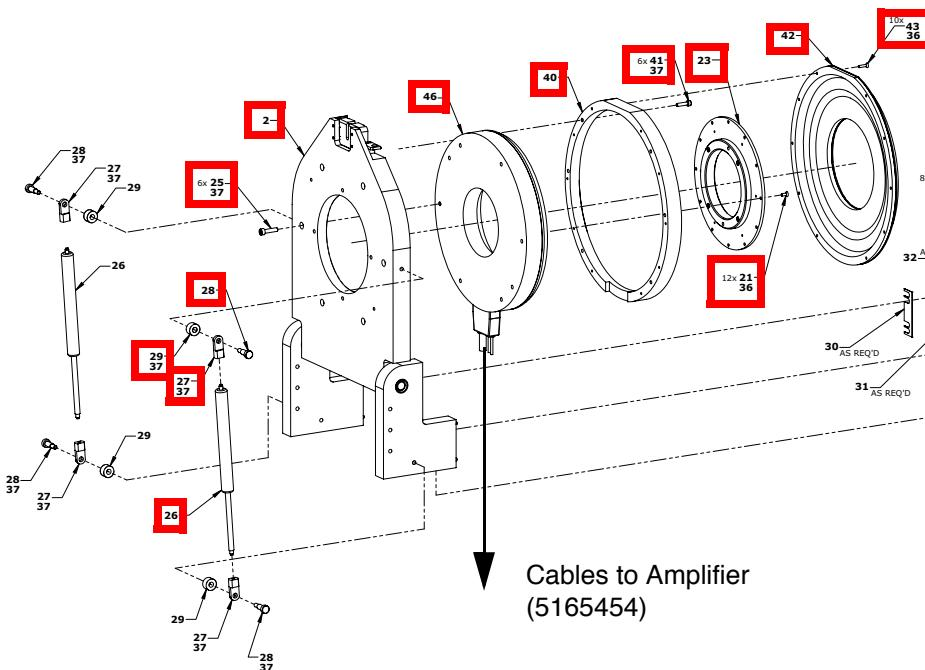

Figure 5-43
- Through the Service pages, the septa is retracted to the home position and the Collimator Support (5162668, Item 2 in Figure 5-43) is unlocked.
1. See Figure 5-43. Remove ten (10) 6-32 flat head socket screws (2390659-1, Item 43) holding Front Shield (5314267, Item 42) and set all aside.
2. Remove six (6) M5 socket head cap screws (2390619, Item 41) holding Front Shield Mounting Bracket (5314269, Item 40) and set all aside.
3. Mark the Drive Flange position relative to the Collimator Drive Motor. Remove twelve (12) M4 socket cap screws (2109884-2, Item 21) from Drive Flange (5165217, Item 23). Set Flange and hardware aside.
See Figure 5-43.